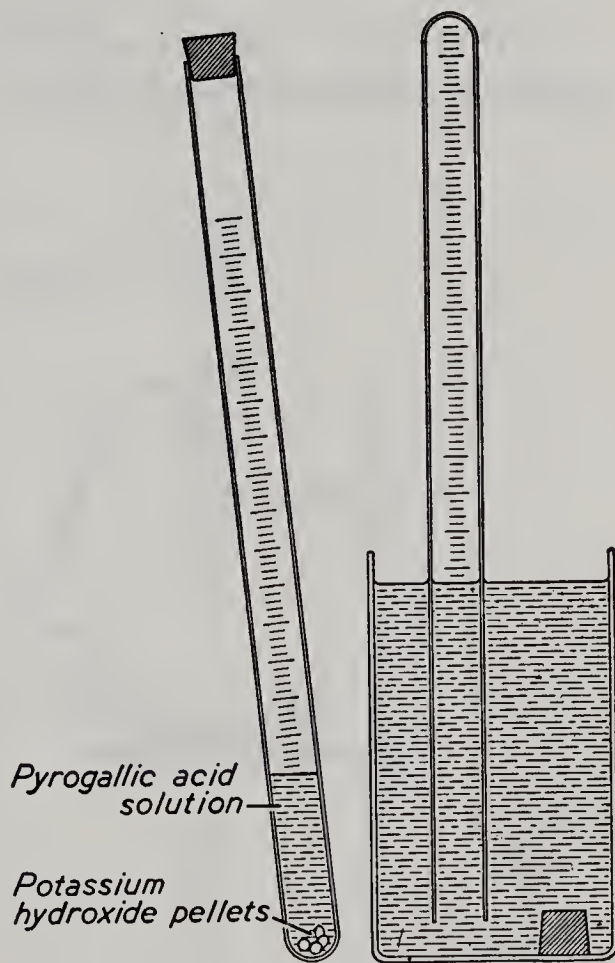

Fig. 27. Determining the composition of air by volume.
1. Pour approximately 60 ml. of a concentrated pyrogallic acid solution into a 200 ml. gas-measuring tube (Fig. 27). Slant the tube and slide a stick of potassium hydroxide about an inch long (or a dozen small pellets) into it, quickly insert a stopper, and holding the stopper in place, invert the tube.